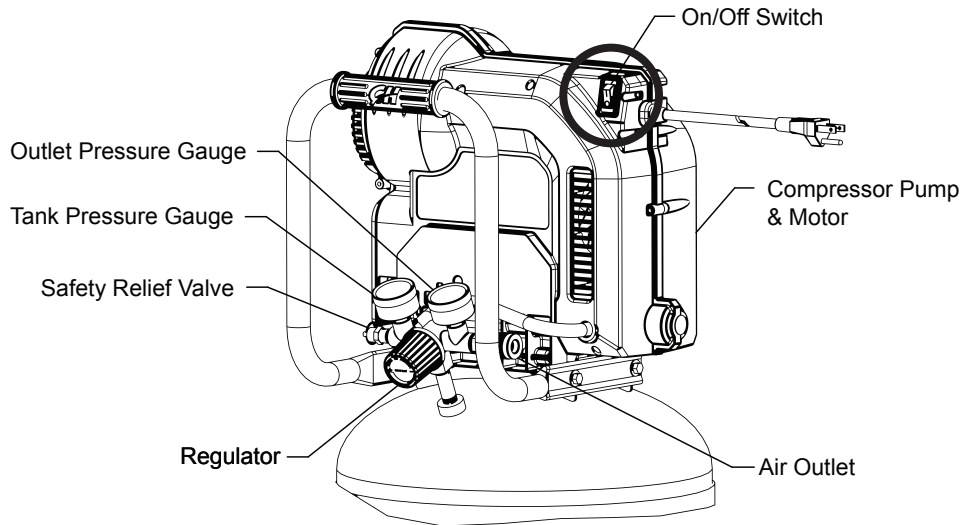

Figure 2
**NOTE:** The On / Off switch should be in the "Off" position when connecting or disconnecting the power cord from the electrical outlet. (Figure 2)